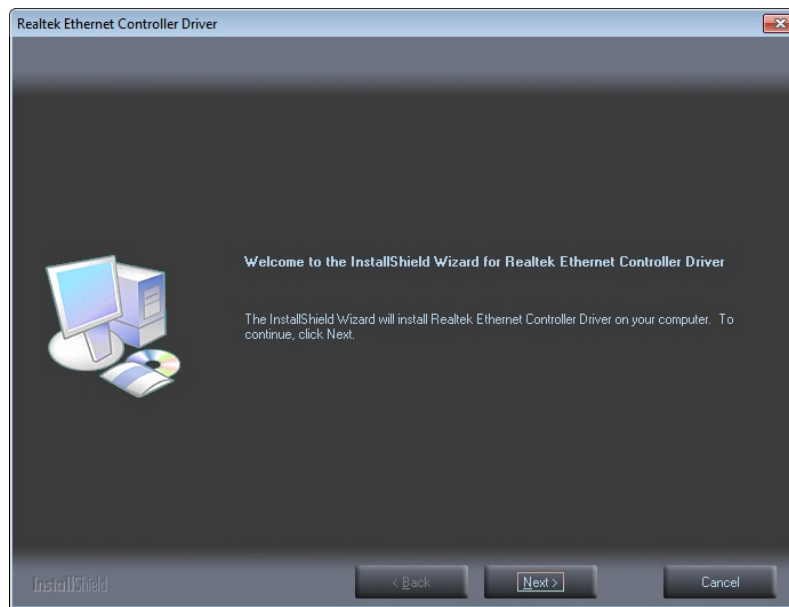

Figure 6-14: LAN Driver Welcome Screen
Step 5: The **Welcome** screen in **Figure 6-14** appears.